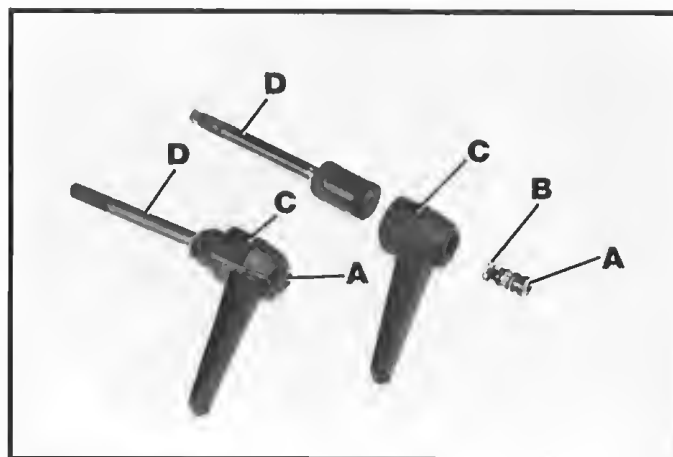

Fig. 3
3. Locate the two table locking handle assemblies, shown in Fig. 3.
4. Remove screw (A) Fig. 3, spring (B) and handle (C) from shaft assembly (D).